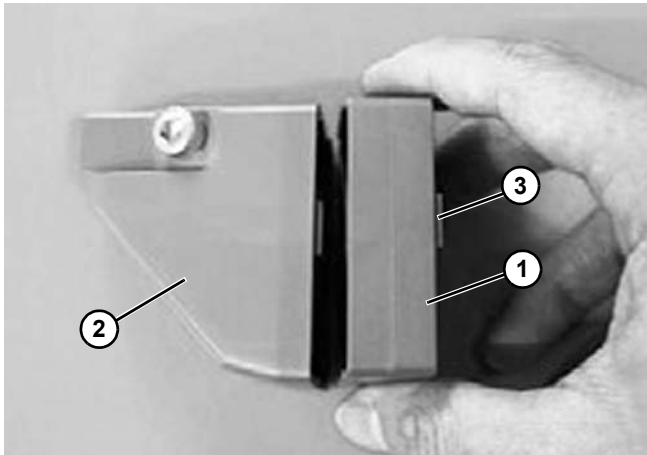

Figure 97
1. Attach the spacer (**Figure 97, item 1**) onto FGRF- 42x18V (**Figure 97, item 2**) and install correct length T-bolt (**Figure 97, item 3**).